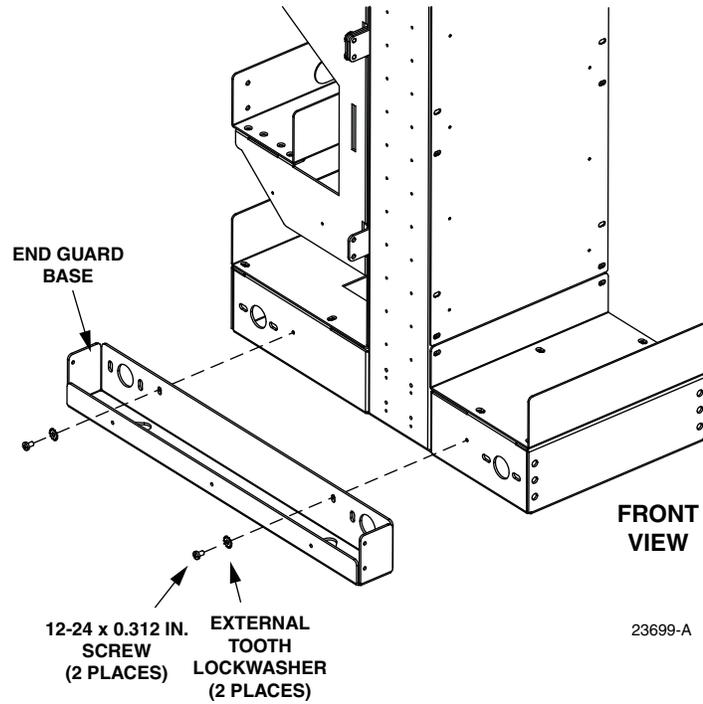

Figure 14. Installing the End Guard Base on the FOTSP
1. Assemble the end guard base on the base of the FOTSP, using two 12-24 x 0.312 inch screws and two external tooth lockwashers, as shown in Figure 14.